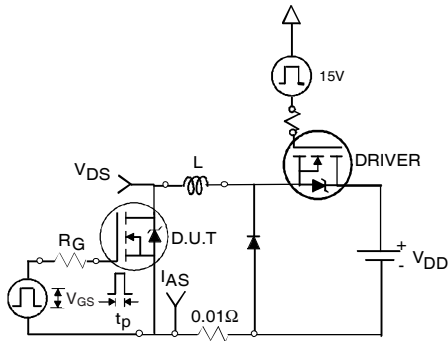

Fig 12a. Unclamped Inductive Test Circuit
- ③ $I_{SD} \leq 90A, di/dt \leq 340A/\mu s, V_{DD} \leq V_{(BR)DSS}, T_J \leq 175^\circ\text{C}$.
- ④ Pulse width $\leq 1.0ms$; duty cycle $\leq 2\%$.
- ⑤ $C_{oss\ eff.}$ is a fixed capacitance that gives the same charging time as C_{oss} while V_{DS} is rising from 0 to 80% V_{DSS} .
- ⑥ Limited by T_{Jmax} , see Fig.12a, 12b, 15, 16 for typical repetitive avalanche performance.
- ⑦ This value determined from sample failure population. 100% tested to this value in production.
- ⑧ R_{θ} is measured at T_J of approximately 90°C .
3. Equation below based on circuit and waveforms shown in Figures 12a, 12b.